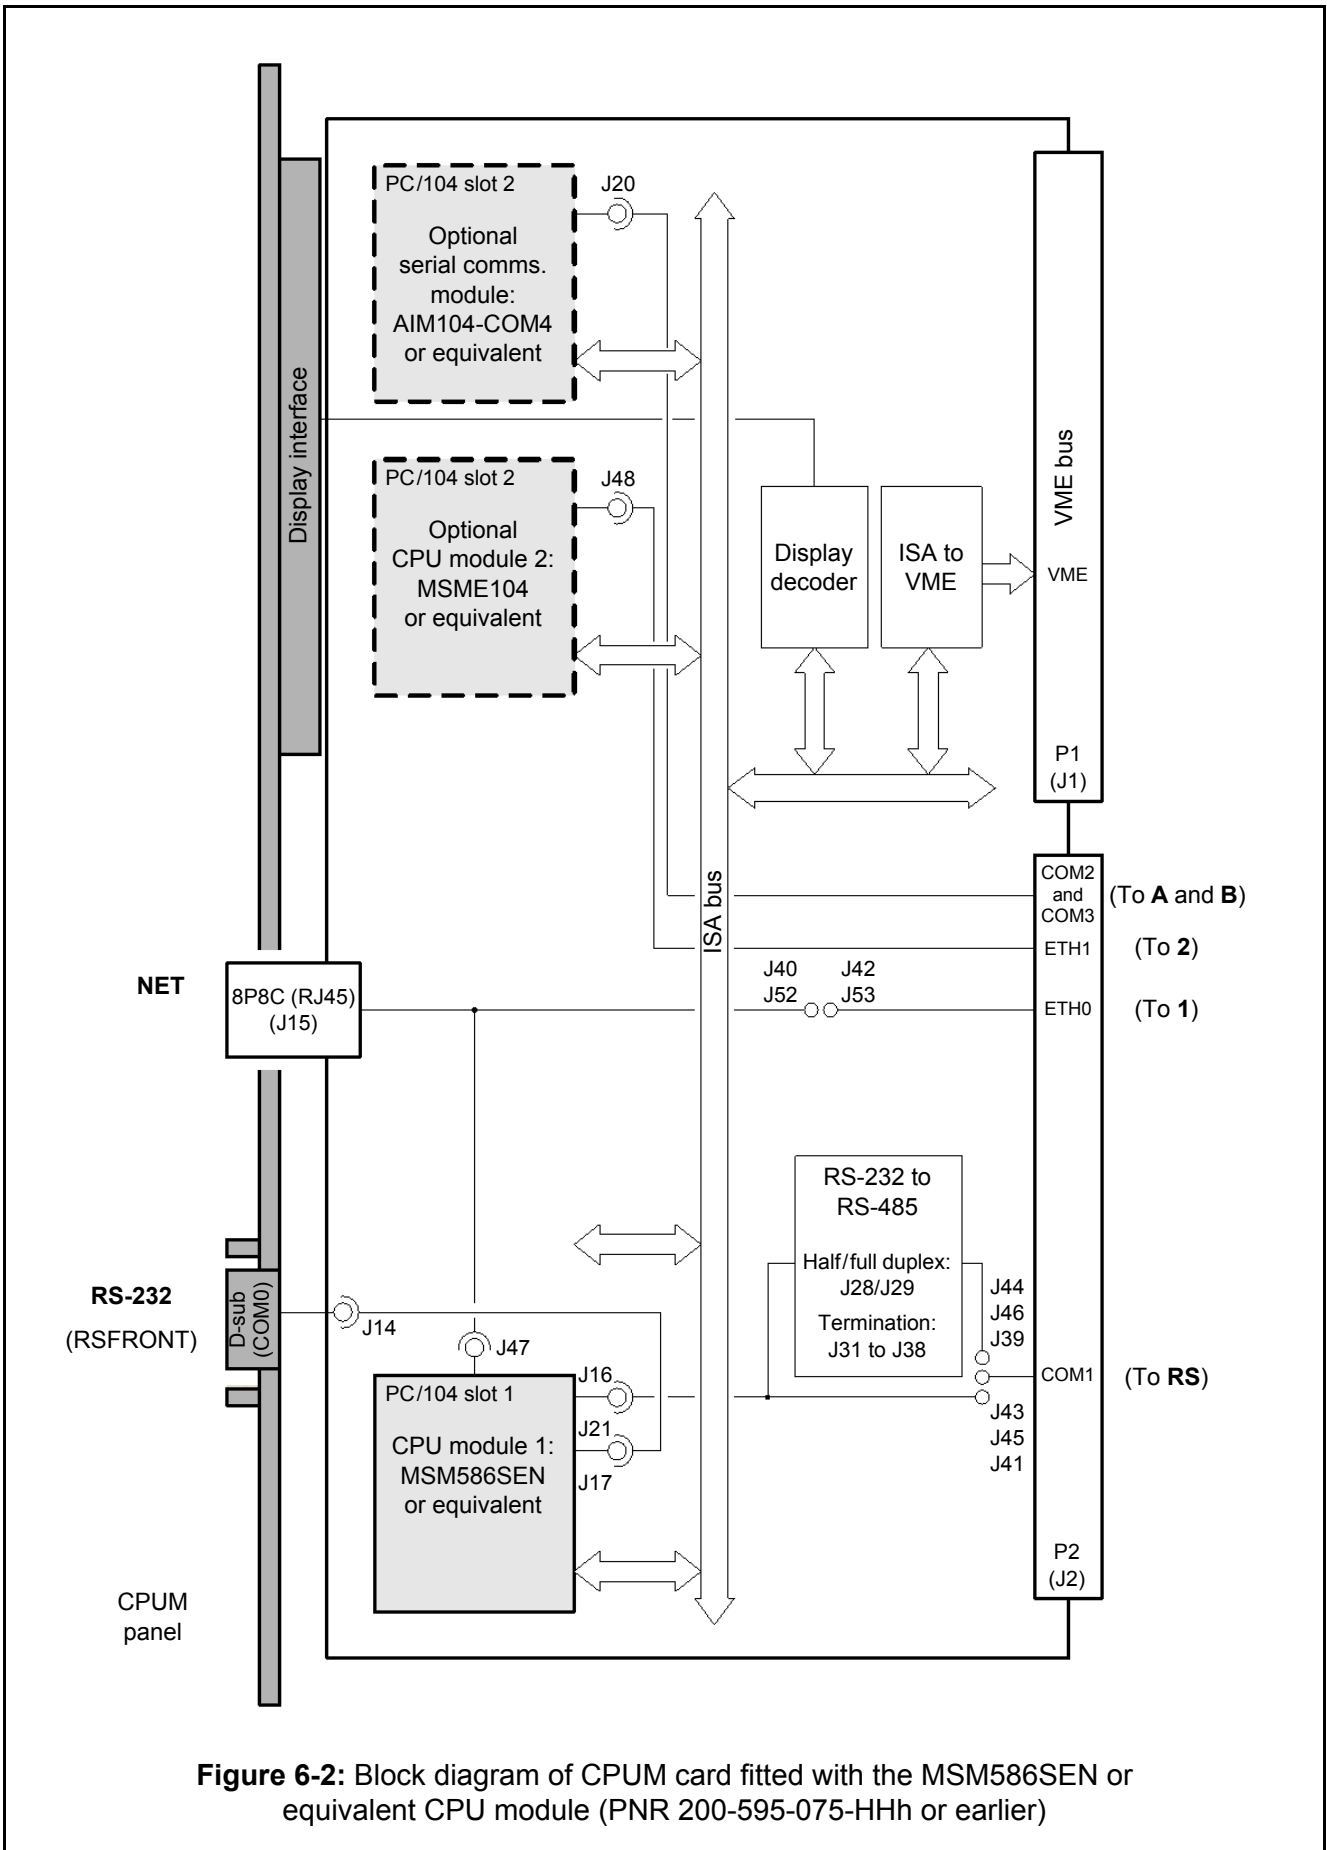

Figure 6-2: Block diagram of CPUM card fitted with the MSM586SEN or equivalent CPU module (PNR 200-595-075-HHh or earlier)
- Earlier versions of the CPUM card (PNR 200-595-075-HHh or earlier) fitted with the MSM586EN or equivalent CPU module (see Figure 6-2).